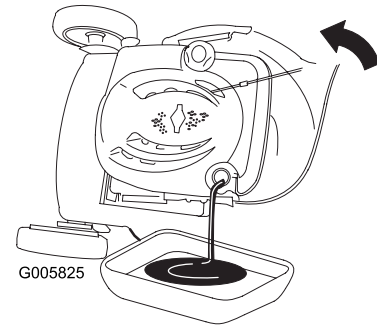

Figure 40
2. Tip the mower onto its side (with the air filter up) to drain the used oil out through the oil fill tube (Figure 40).